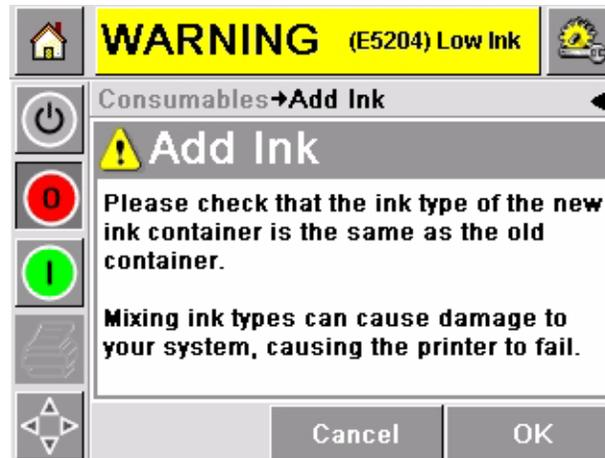

Figure 6-2: Check Ink Type Message
- 1 Remove the ink bottle. Make sure that the ink type of the new ink bottle is same as that of the old ink bottle (Figure 6-2).